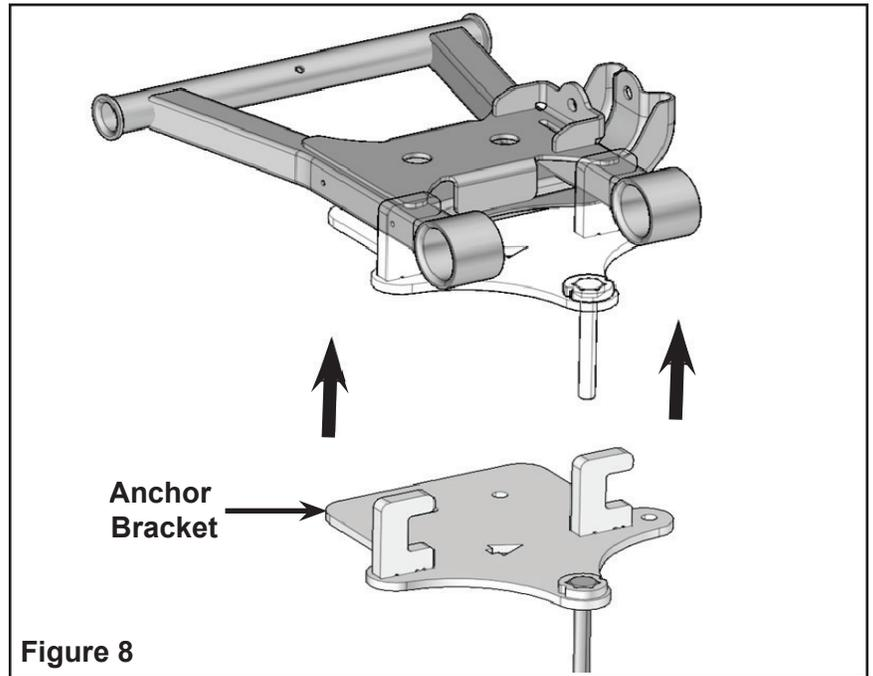

Figure 8
5. Position anchor bracket under the lower suspension arm; C-shaped openings on bracket must be located on suspension arm tubes. Figure 8. Insert the M10x65 mm bolt in the bracket hole aligned with c-shaped hooks, install spacer bushing and nut on bolt. Tighten assembly to 37 ft. lbs. (50 Nm) of torque. Figure 8a.